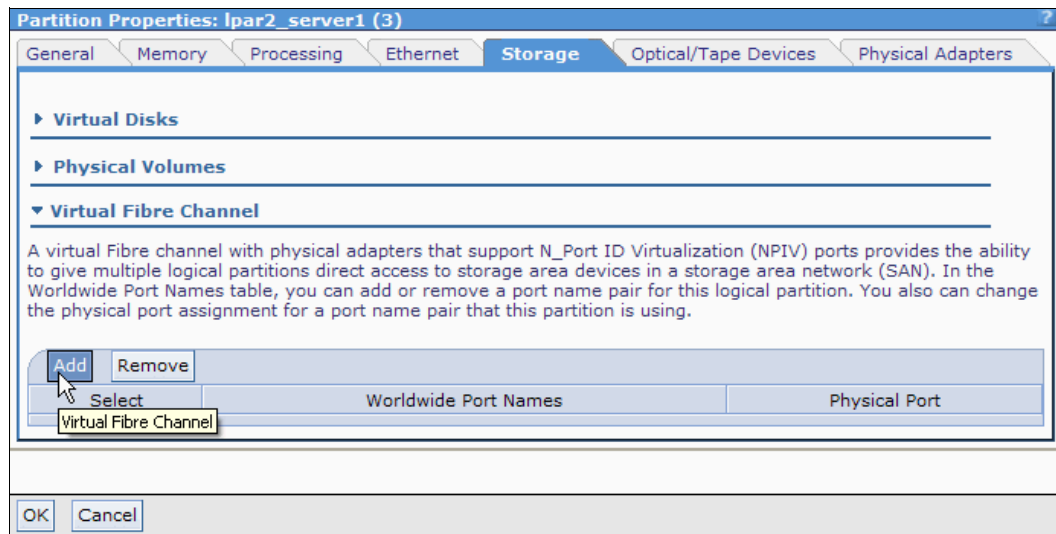

Figure 4-99 Storage tab
3. Figure 4-99 shows the Storage tab. Expand the **Virtual Fibre Channel** menu and click **Add** to create a new virtual Fibre Channel adapter.